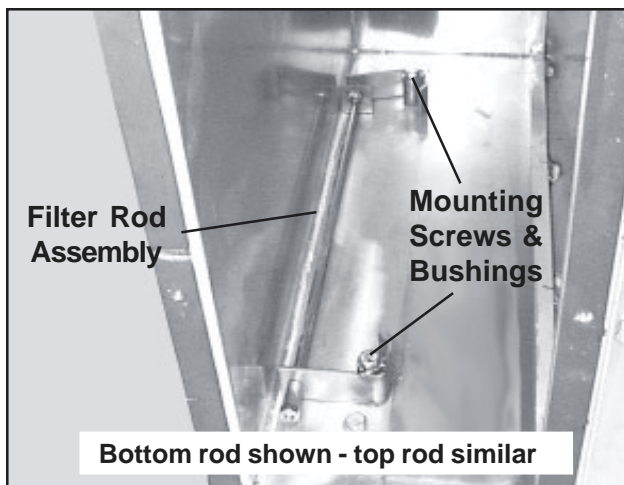
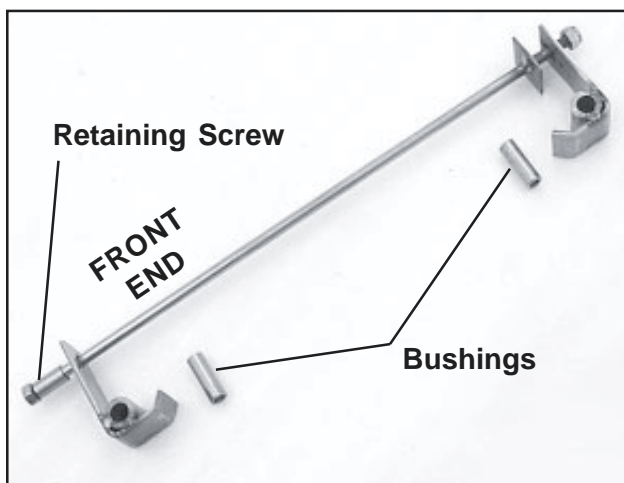

Figure 104. Filter Rod Assembly & Mounting Screws
Figure 106. Filter Rod Assembly
10. With two 7/16 in. wrenches (one socket and one open-end), unscrew the front and rear mounting screws and remove the rod assembly from the blower box (Figure 104).
1. Make sure the bushings (Figure 106) are in place in the filter rod assembly mounting screw holes. If new bushings are being installed, put them in place now.
2. Secure the rod assembly in place with the mounting screws and nuts removed earlier (Figures 104 & 105). The retaining screw must be toward the front (Figure 106).